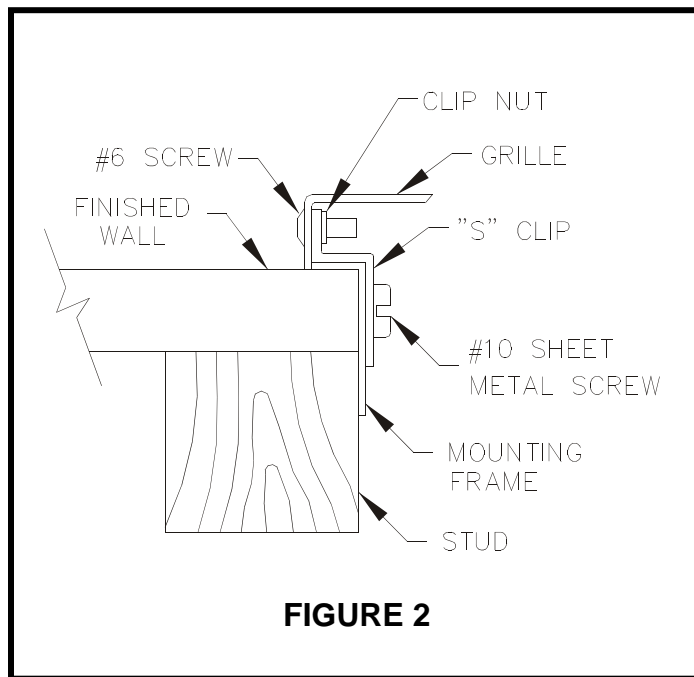

FIGURE 2
Step 5: See Figure 2 for detail section view of side screw grille attachment. Unpack grille and insert lower lip behind bowl, align sides and hold up flush to bottom of top of bowl. Hold grille against wall and mark centers of grille side slots on wall. Masking tape may be used to prevent finished wall damage from mark. Install the "s" clips in mounting frame using #10 sheet metal screws into pre-drilled holes on lower end of each side of frame. Tighten #10 screws while holding "s" clips centered on wall marks. Check grille fit by installing grille and partially tightening # 6-32 socket head screws through side of grille.